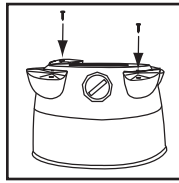

FIGURE 6
5. Secure with screws provided. **FIGURE 6**.